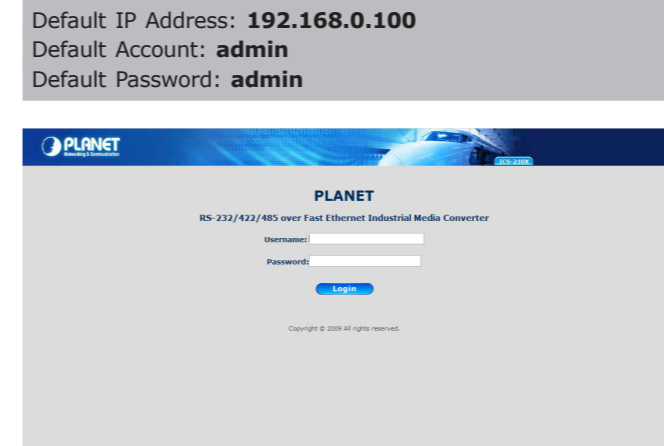

Figure 4 Login screen
2. When the following login screen appears, please enter the default username and password (default user name and password is "**admin**"). Press Login to enter the main screen of ICS-210x. The login screen in Figure 4 appears.
After entering the password (default user name and password is "**admin**") in login screen (Figure 4 appears). The Web main screen appears as Figure 5.